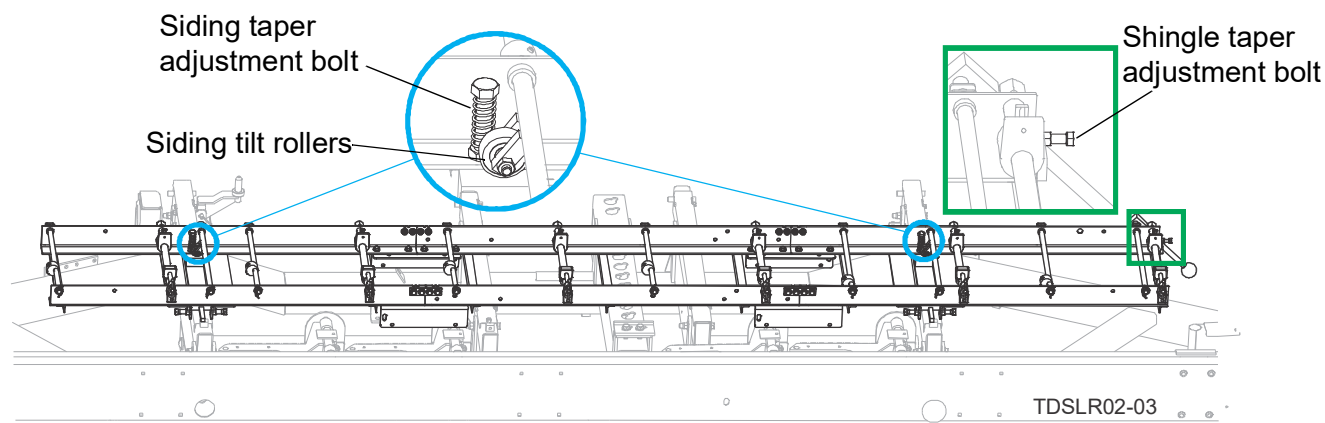

FIG. 5-1
2. Position the **siding** taper adjustment bolts fully down (clockwise) until you can spin the siding lift rollers by hand. See FIG. 5-1.
2. Adjust the **shingle** taper adjustment bolt to 1/4". See FIG.5-1, SECTION 5 Shingle Operation.